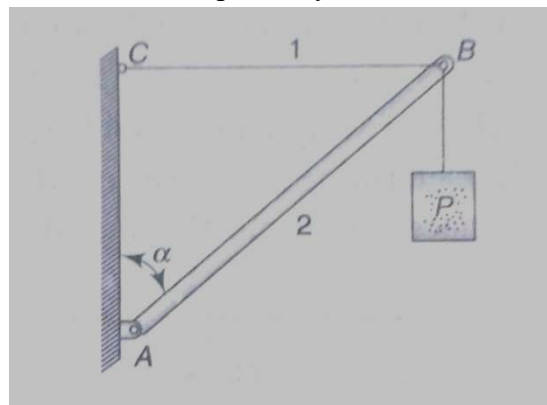

Figure 1.9
15. What axial forces does the vertical load P induce in the members of the system shown in Figure 1.9. Neglect the weights of the members themselves and assume an ideal hinge at A and a perfectly flexible string BC .